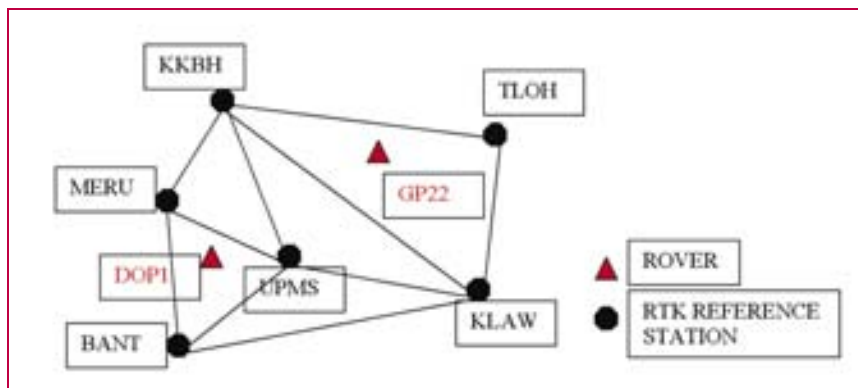

Figure 7: Virtual RINEX GPS network test site
- The objective of the Virtual RINEX Data Test is to compare the GPS coordinates obtained from the processing of the Virtual RINEX data with their corresponding published GPS geodetic values. The test was carried out at the existing GPS geodetic network in Peninsular Network. An example of the layout of the network test site is shown in Figure 7.
- The Network site comprises of six (6) GPS reference stations (known stations) namely KKBH, MERU, UPMS, BANT, KLAU and TLOH. The test was carried out using GPS Static technique with 2 sessions of 10 minutes on 2 GPS receivers.